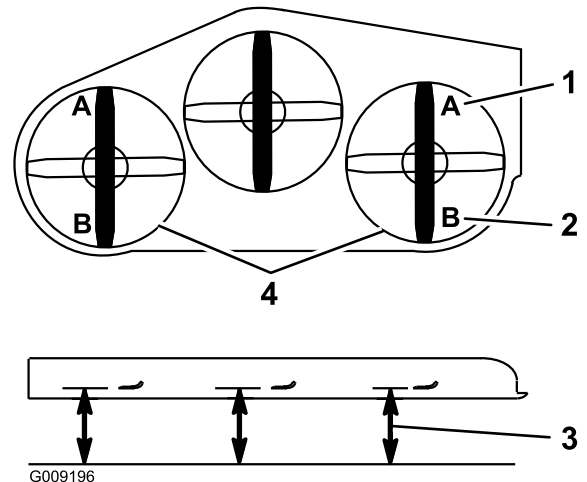

Figure 85
9. On both sides of the deck, measure from the level surface to the front tip of the blade (Position A). The measurement should read 3 inches (7.6 mm) (Figure 85).
15. On both sides of the deck, measure from the level surface to the back tip of the blade (Position B). The measurement should read 3 1/4 inches (8.3 cm) (Figure 85).